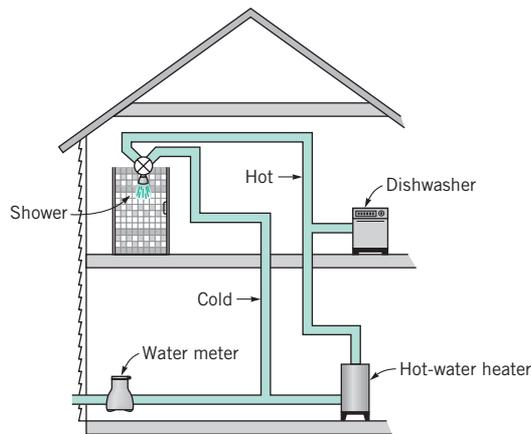

FIGURE P8.93
**†8.93** As shown in Fig. P8.93, cold water ( $T = 50^\circ\text{F}$ ) flows from the water meter to either the shower or the hot-water heater. In the hot-water heater it is heated to a temperature of  $150^\circ\text{F}$ . Thus, with equal amounts of hot and cold water, the shower is at a comfortable  $100^\circ\text{F}$ . However, when the dishwasher is turned on, the shower water becomes too cold. Indicate how you would predict this new shower temperature (assume the shower faucet is not adjusted). State any assumptions needed in your analysis.